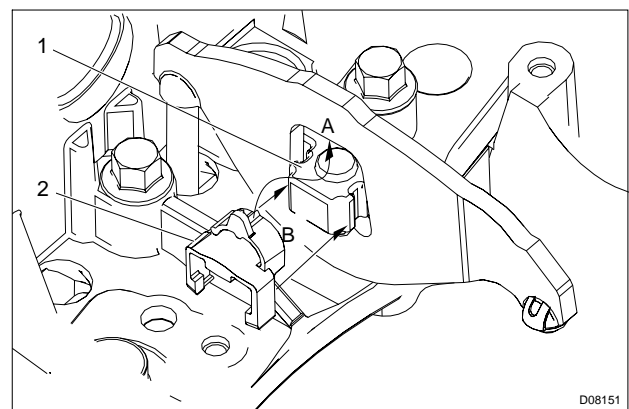

Figure 634 Position "A" in first then slide "B" around fulcrum plate
13. Install new plastic rocker arm retaining clip (Figure 634) by positioning top of clip to top of rocker arm opening and rotating clip until snapping around fulcrum plate.